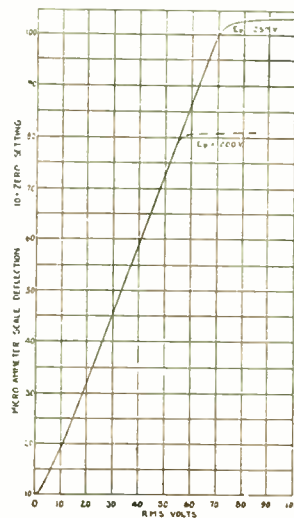

Fig. 2. Calibration curve of direct-reading vacuum tube voltmeter (0-70v. range)
high sensitivity in a circuit having such a high applied potential. By a very simple calculation, however, it will be evident that even if the plate and filament of the tube should become short circuited, the high value of series plate resistance would prevent the plate meter from being overloaded. As will be seen from the calibration curve (Fig. 2) the plate meter reading remains practically constant after it has reached a reading of approximately 104 microamperes. While slightly past
6. Plate potential. As long as the zero setting is correct, a variation of as much as 20 per cent in plate potential will cause less than 1 per cent variation in reading, up to the "cut off" point. This point, i. e., the point above which the plate current will not rise with increased input potential, will be lowered. This can be noted in Fig. 2, where the horizontal line marked "200 volts" shows where this point would be for this value of plate potential.